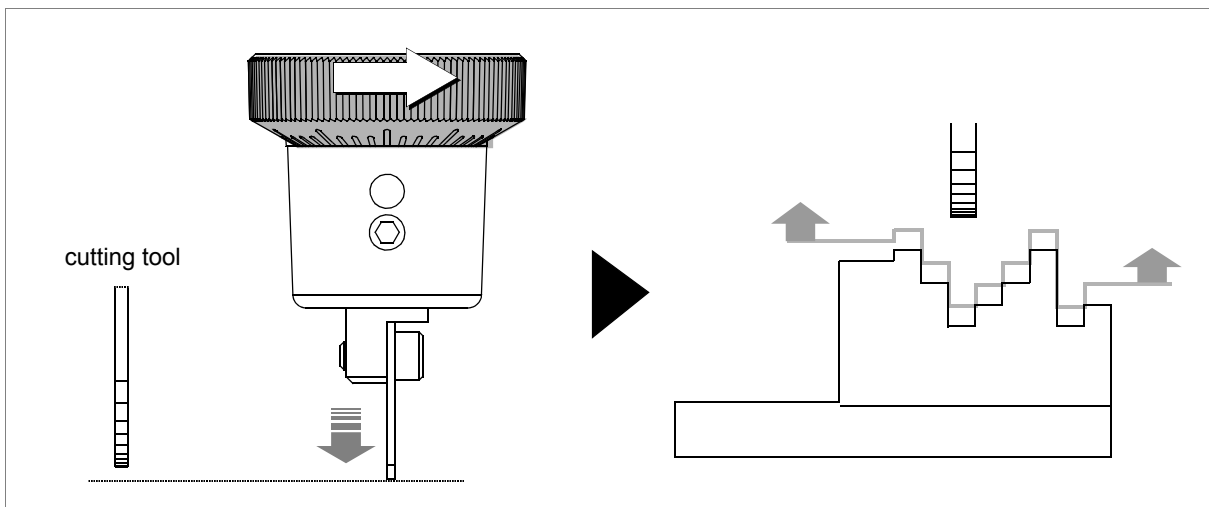

Fig. 23
- turn the ring nut (N1) clockwise to advance the tracer point (fig. 23).